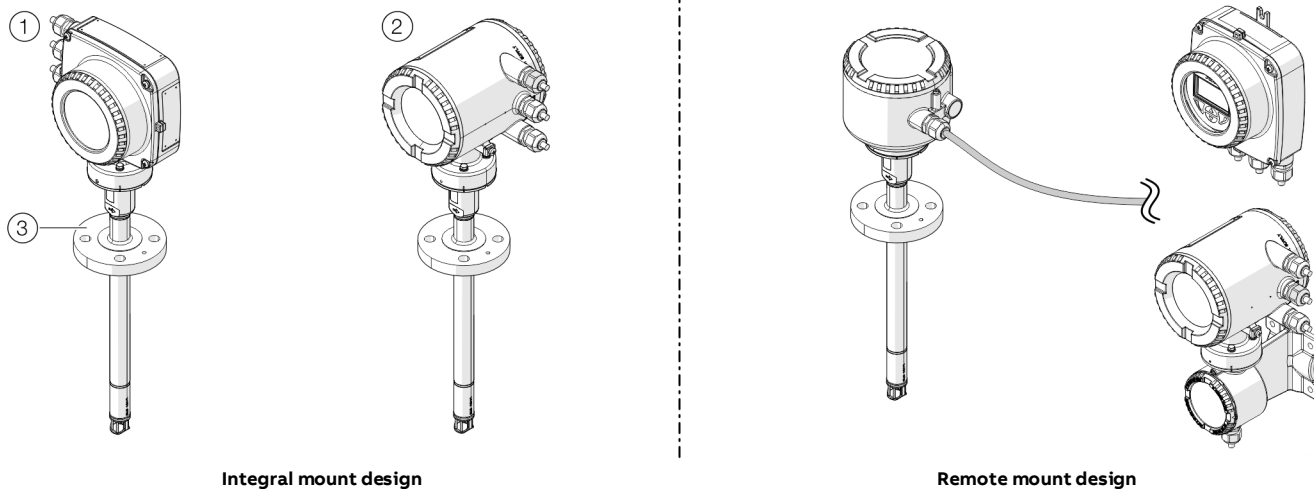

Figure 5: Sensor FMT430, FMT450 (example)
Design	Integral mount design (see Figure 5 on page 25), remote mount design; transmitter optionally in single-compartment housing (2) or dual-compartment housing (1)